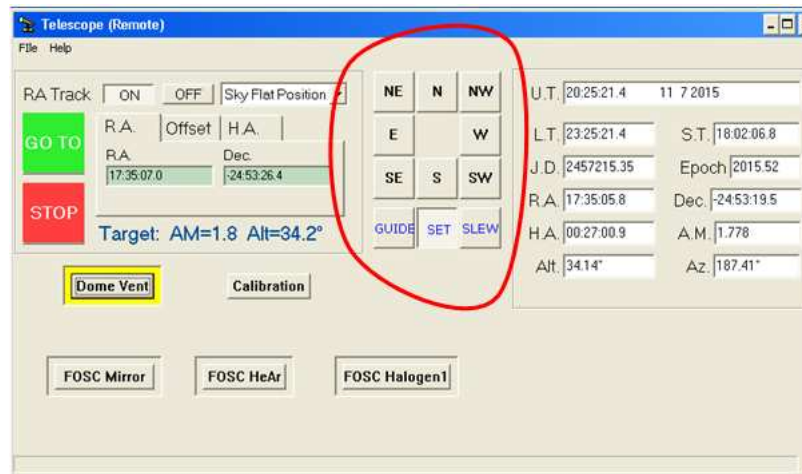

Figure 7.9: “SET” and “GUIDE” buttons in the “Telescope Agent”.
- Bring the star to the pinhole using the “SET” and “GUIDE” buttons in the “Telescope Agent” (figure 7.9).